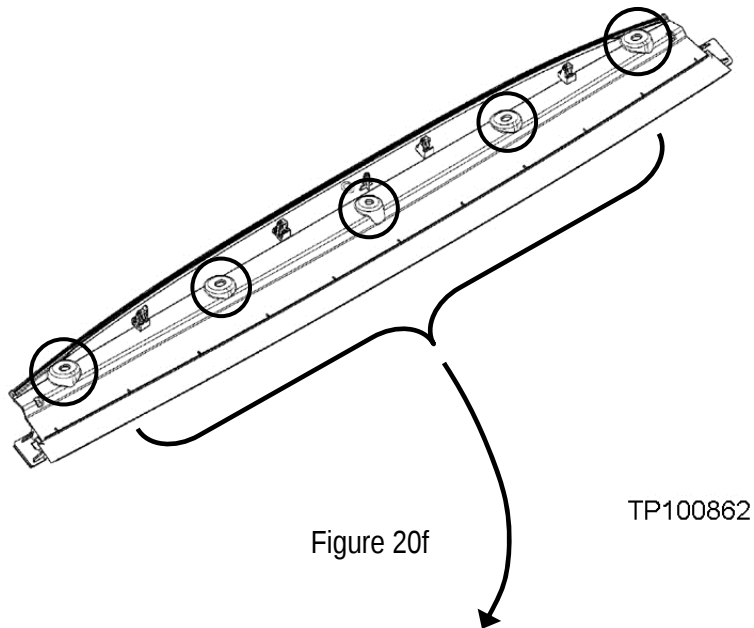

Figure 20f
23. Apply these pieces where shown in Figure 20f and 21f.